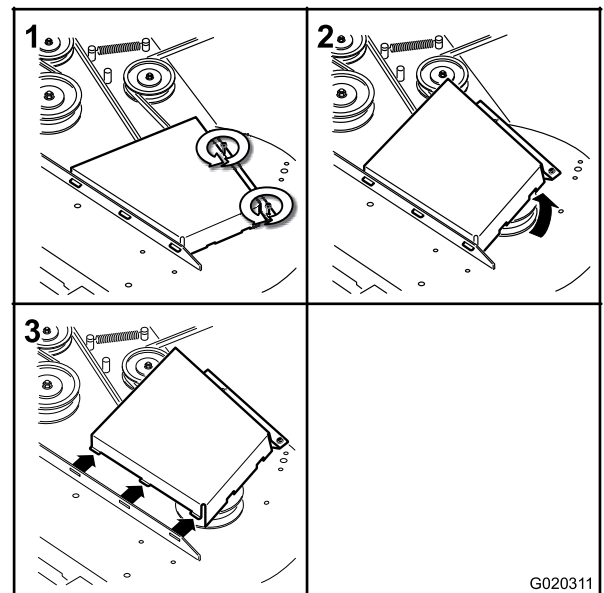

Figure 65
5. Remove the belt covers (Figure 65).